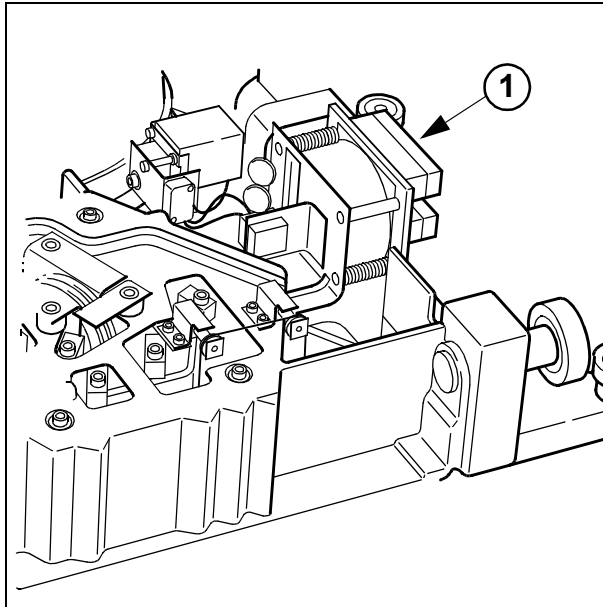

Fig. 9
- Check the adjustment (1/Fig. 9).